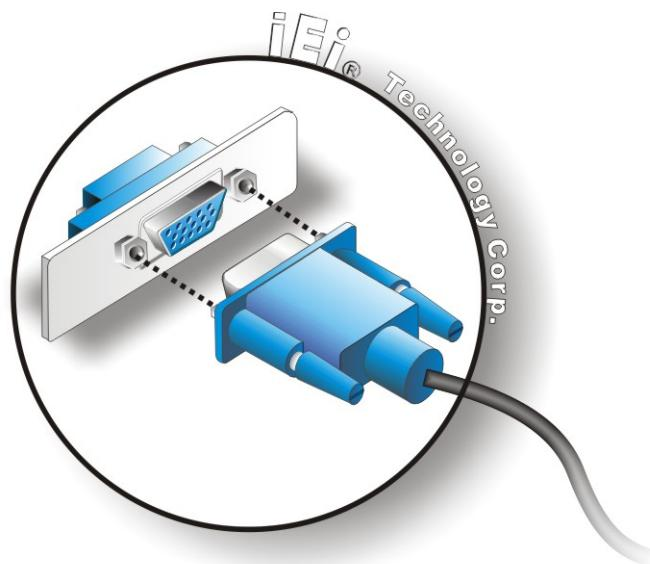

Figure 4-22: VGA Connector
Step 3: Insert the VGA connector Once the connectors are properly aligned with the insert the male connector from the VGA screen into the female connector on the NANO-PV-D4252/N4552/D5252. See Figure 4-22.